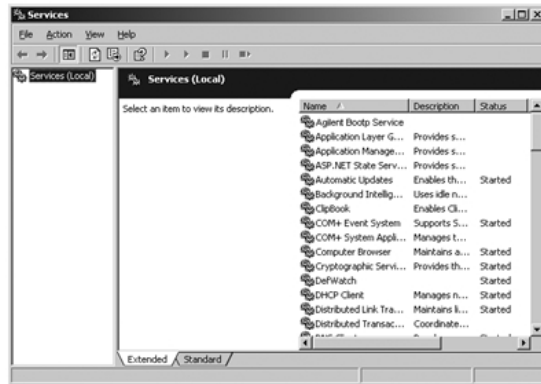

Figure 96 Windows Services screen
- 1 In the Windows control panel, select **Administrative Tools > Services**. The **Services** screen appears, see Figure 96 on page 281.